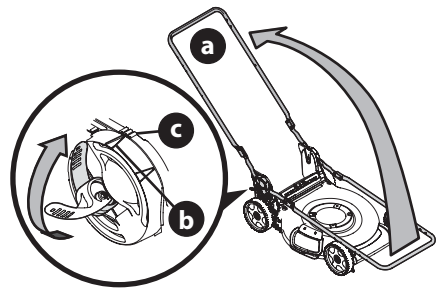

Figure 13
5. While stabilizing mower so it doesn't move, lift the upper handle up (a) (Figure 13). Do not crimp blade or drive control cables while lifting the handle up.
6. When lifting the upper handle ensure the position indicator (b) aligns with one of three handle positions (c) (Figure 13, inset).
7. Lock the two handle release levers (Figure 13, inset).